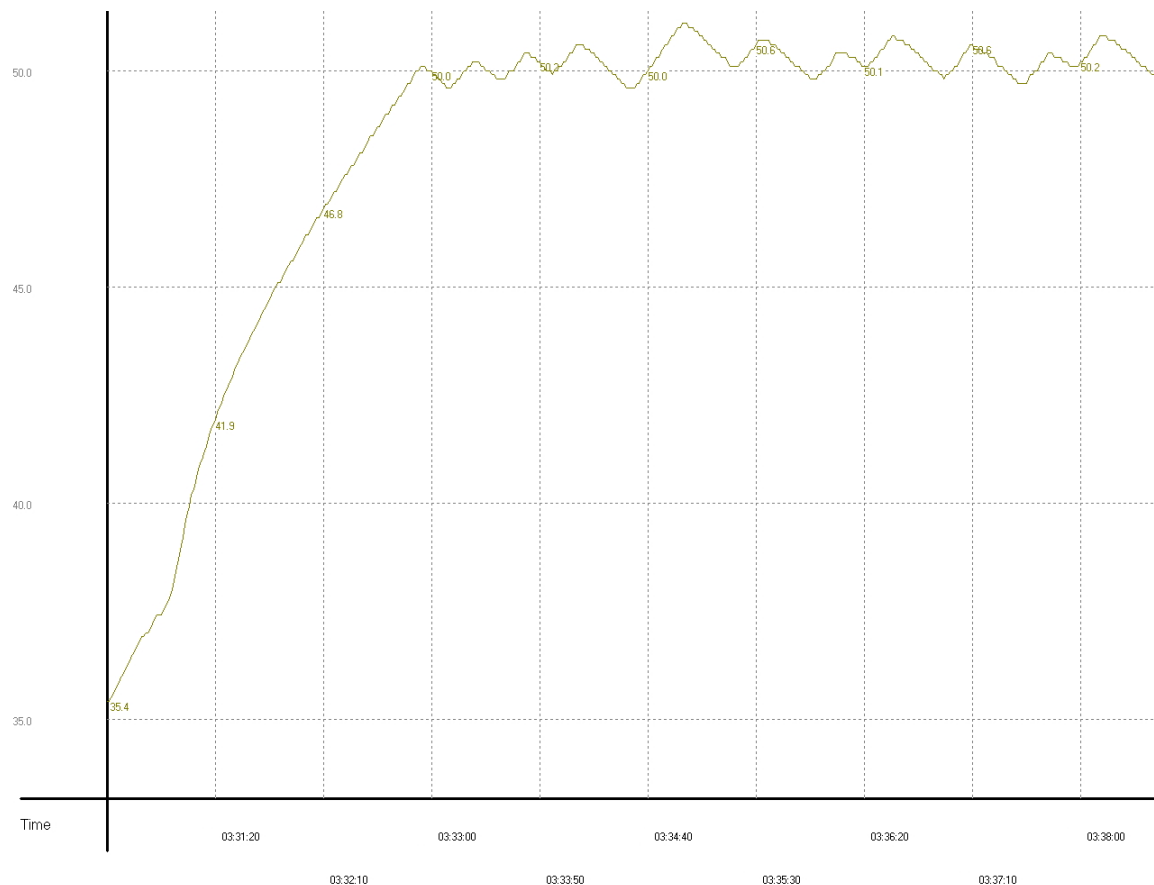

Figure 12
- The experimental result of using the values of the parameters calculated (the  $K_p$ ,  $K_i$ , and  $K_d$ ) after the adjustment for temperature control is shown in Figure 12.
The experimental result of using the values of the parameters (the  $K_P$ ,  $K_I$ , and  $K_D$ ) after the adjustment for temperature control is shown in Figure 12.